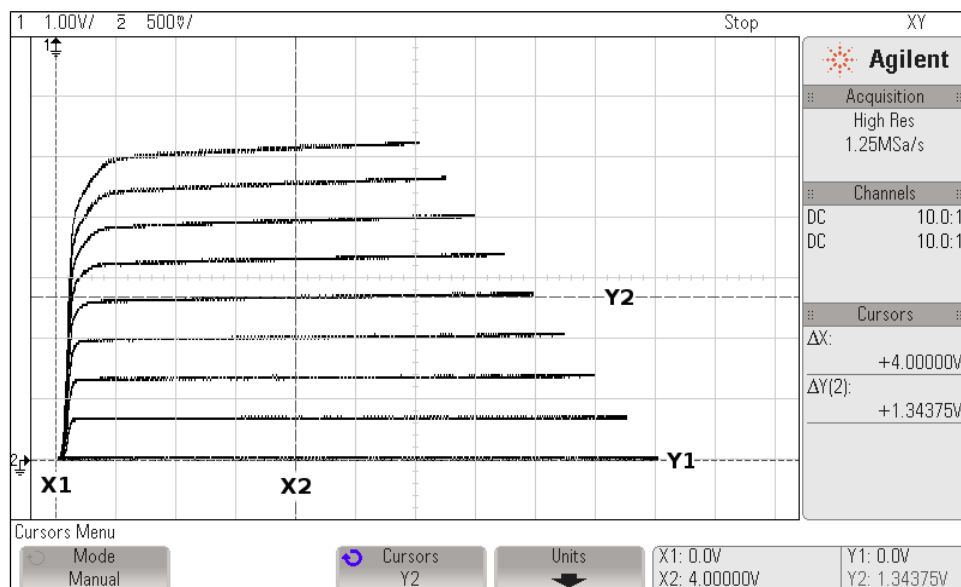

Figure 4. Cursor Measurements.
15. Press the Cursors key to turn on the cursors and position them as follows:  $X1 = 0$ ,  $X2 = 4V$ ,  $Y1 = 0$ ,  $Y2$  on the  $I_b = 80\mu A$  line where  $X2$  crossed it. Record the  $Y2$  voltage, which is the voltage across the  $100\Omega$  resistor. Note that the  $X1$ ,  $X2$ ,  $Y1$  and  $Y2$  text will not appear on the screen. Save this display to your USB drive (or take a picture) and include it in your lab report. In the example in Figure 4, the collector current and  $\beta_{dc}$  are: